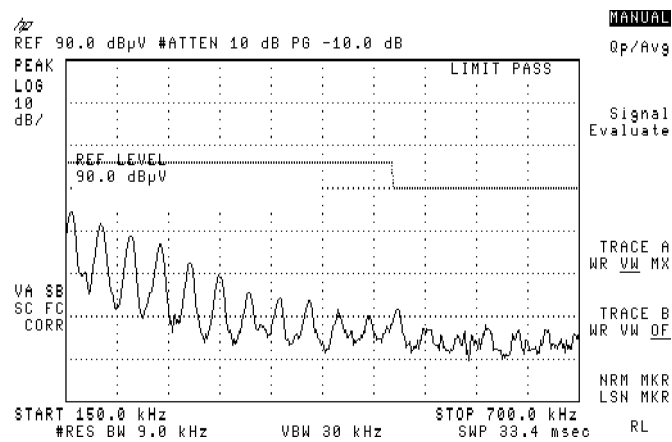

Figure 3-34. Max-Hold Trace in View Mode
28. Press **TRACE A WR VW MX** (VW will be underlined), to view the trace. See Figure 3-34.